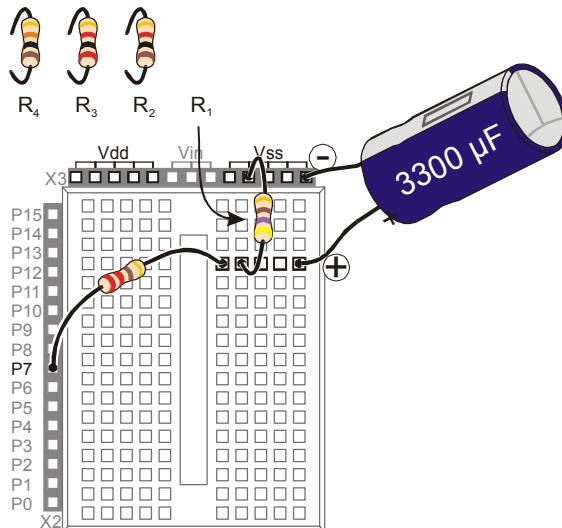

Figure 5-9
Figure 5-8 shows the circuit schematic and Figure 5-9 shows the wiring diagram for this activity. You will be taking time measurements using different resistor values in place of the resistor labeled R_i .
Your 3300 μ F capacitor will work fine in this experiment so long as you make sure that the positive (+) and negative (-) terminals are connected EXACTLY as shown in Figure 5-8 and Figure 5-9.
- ✓ Remove the $470\ \Omega$ resistor labeled R_i in Figure 5-8 and Figure 5-9 on page 145, and replace it with the $1\ k\Omega$ resistor.